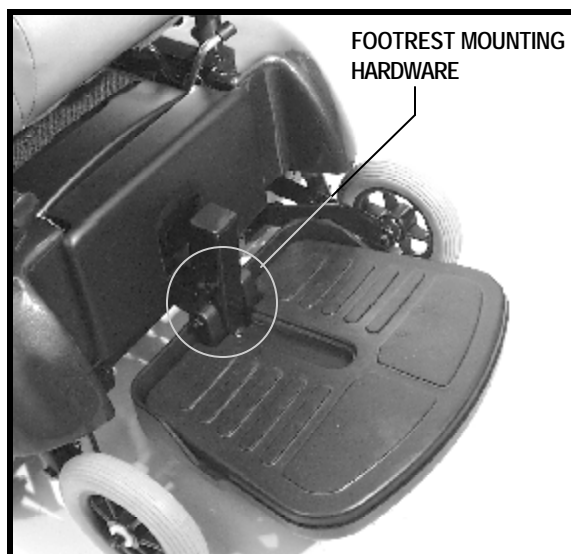

Figure 22. Footrest Height Adjustment
1. Remove the footrest mounting hardware. See figure 22.